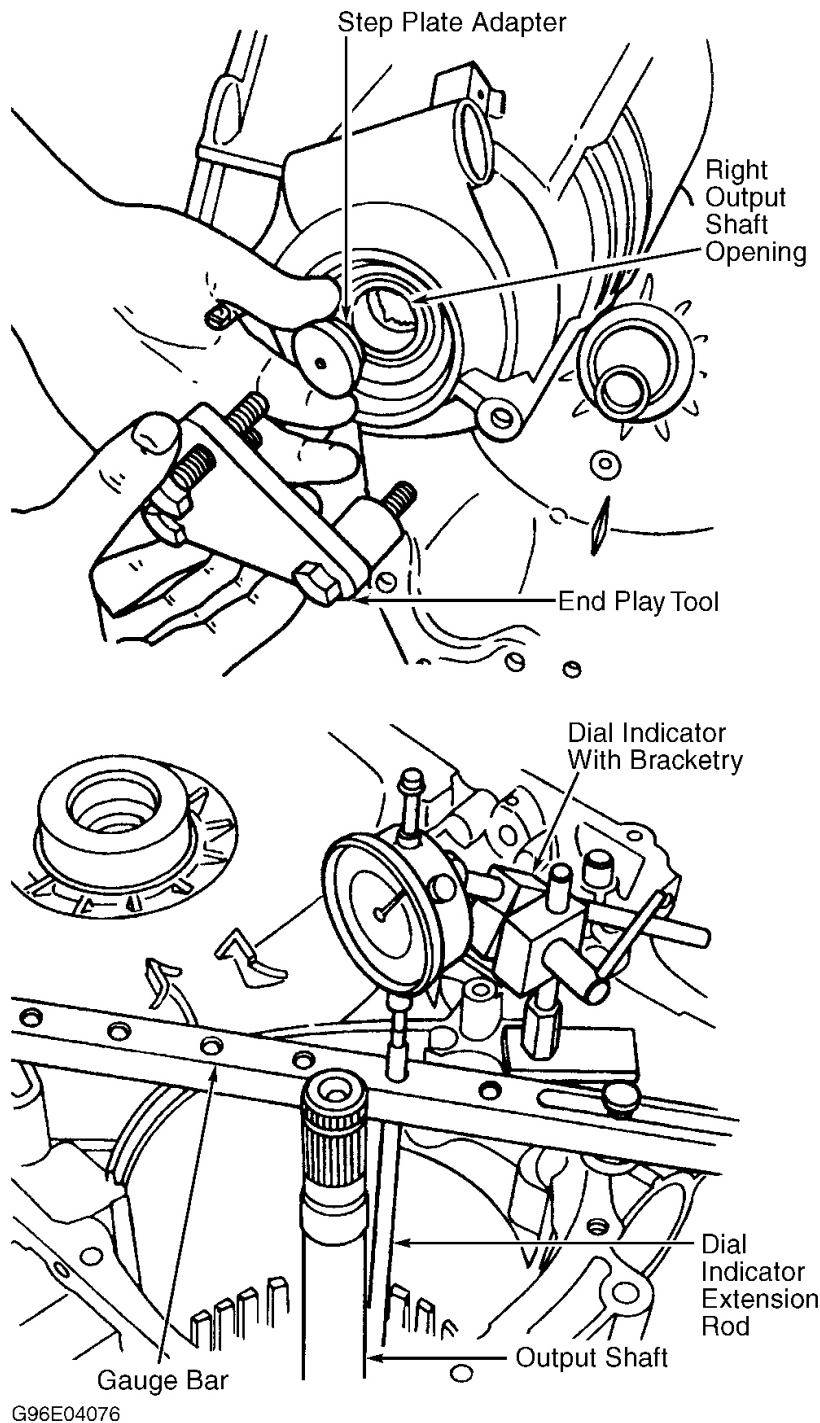

Fig. 37: Checking End Play
5. Check end play by installing Step Plate Adapter (D80L-630-3) and End Play Tool (T87P-70012-AH) over right output shaft opening. See **Fig. 37** . Remove No. 15 needle bearing. Place gauge bar across chain cover gasket surface. Mount dial indicator with extension rod to case. Extension rod should pass through gauge bar and rest on No. 15 needle bearing surface. Zero dial indicator. Tighten end play tool to 10-15 INCH lbs. (1.1-1.7 N.m).